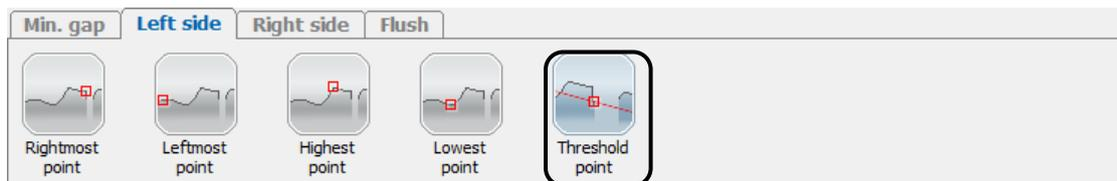

Fig. 3.37: "Threshold point" algorithm for the left point of a gap, "Left side" tab sheet
- Select the algorithm for determining the start point of a gap, for example by clicking in the "Left side" tab sheet (see Fig. 3.37).
The selection buttons with the algorithms available will appear at the bottom (see Fig. 3.37).
- Select the "Threshold point" algorithm (see Fig. 3.37).
- ▶ Select the algorithm for determining the start point of a gap, for example by clicking on the "Left side" tab sheet (see Fig. 3.37).
- ▶ Select the algorithm "Threshold point" (see Fig. 3.37).